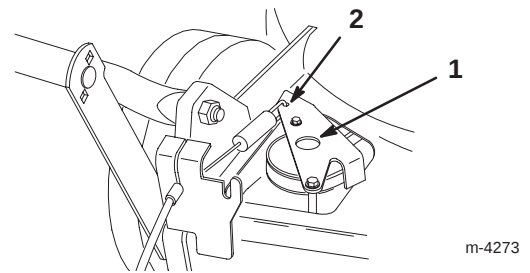

Figure 21
4. Push the drive bracket down until it contacts the lawn mower, then hold it in place (Fig. 21).